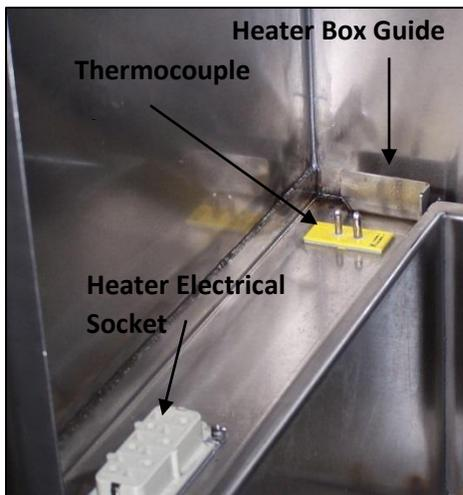

Figure 6
- Place the heater box onto the heater box shelf. Figures 6 & 7.
- The heater plug and thermocouple plug will connect to their respective sockets on the underside of the heater box and deck of the cabinet. Figures 6 & 7.